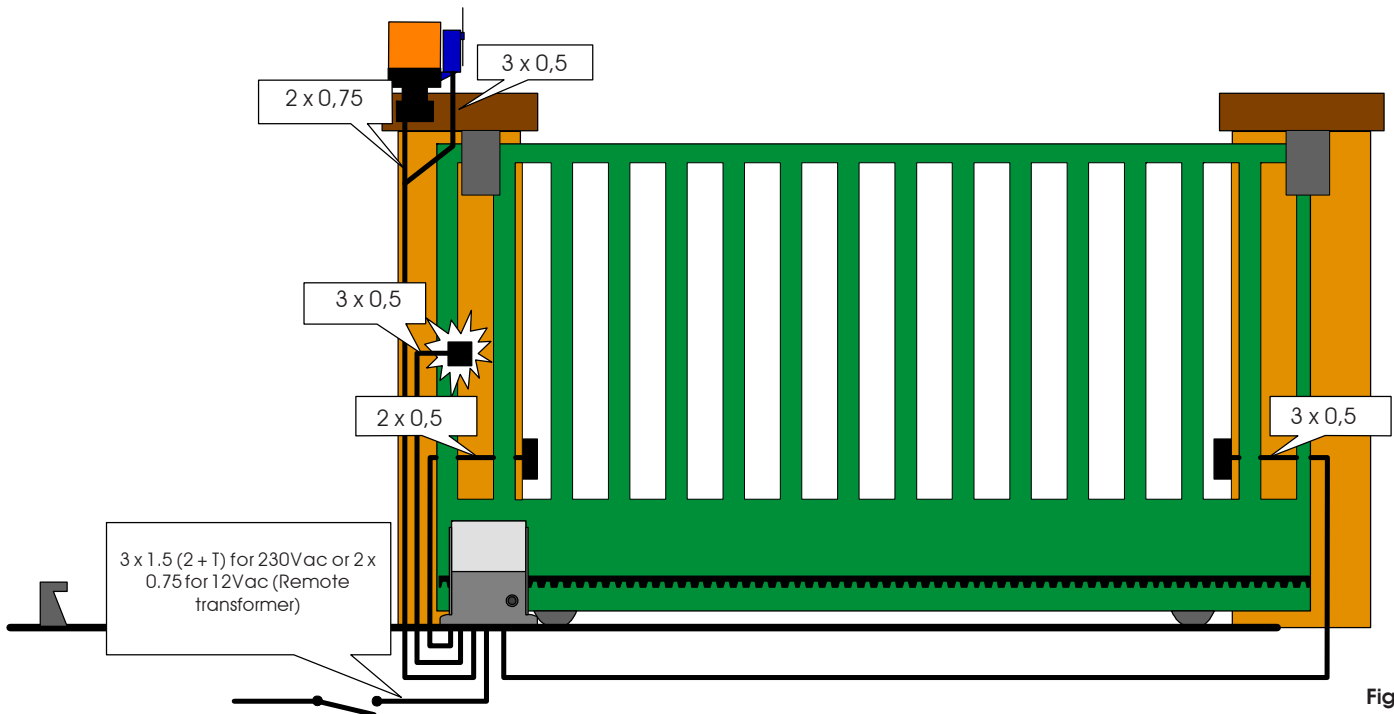

Fig. 4
- Lay the electric cables for connection to the accessories and power supply as shown in Fig. 4. To facilitate making the connections, allow the cables to project by the required length for connection to the terminal board, transformer and decoding card (if provided).